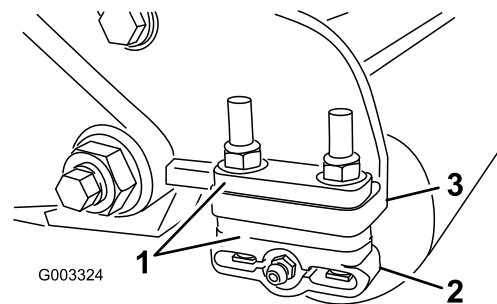

Figure 18
1. Adjust the rear roller brackets (Figure 18) to the desired height of cut range by positioning the required amount of spacers below the side plate mounting flange (Figure 18) per the HOC Chart.